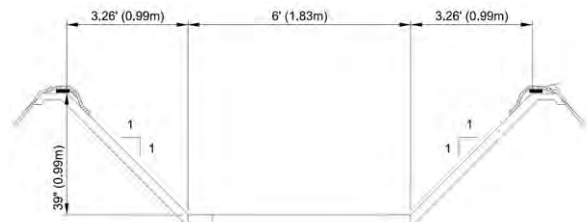
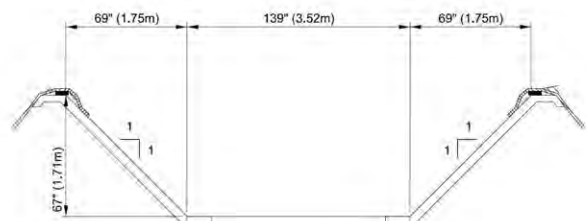

Figure 17
Figure 18
**Figure 17** shows a one base wide and one wall high (135°) MegaDitch cross-section. **Figure 18** shows a two base wide and two wall high (135°) MegaDitch cross section. The base and wall sections can be trimmed by **PendaForm** to create any combination of sections to provide the required channel size.